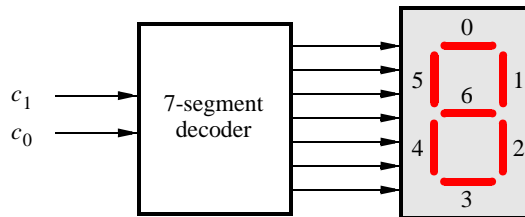

Figure 6: A 7-segment decoder.
Figure 6 depicts a *7-segment decoder* module that has the two-bit input  $c_1c_0$ . This decoder produces seven outputs that are used to display a character on a 7-segment display. Table 1 lists the characters that should be displayed for each valuation of  $c_1c_0$ . Three characters are included plus the ‘blank’ character, which is selected for code 11.
1. Write Verilog code for your 7-segment decoder. Connect the  $c_1c_0$  inputs to switches  $SW_{1-0}$ , and connect the outputs of the decoder to the  $HEX0$  display on the DE1-SoC board. The segments in this display are called  $HEX0_0, HEX0_1, \dots, HEX0_6$ , corresponding to Figure 6.